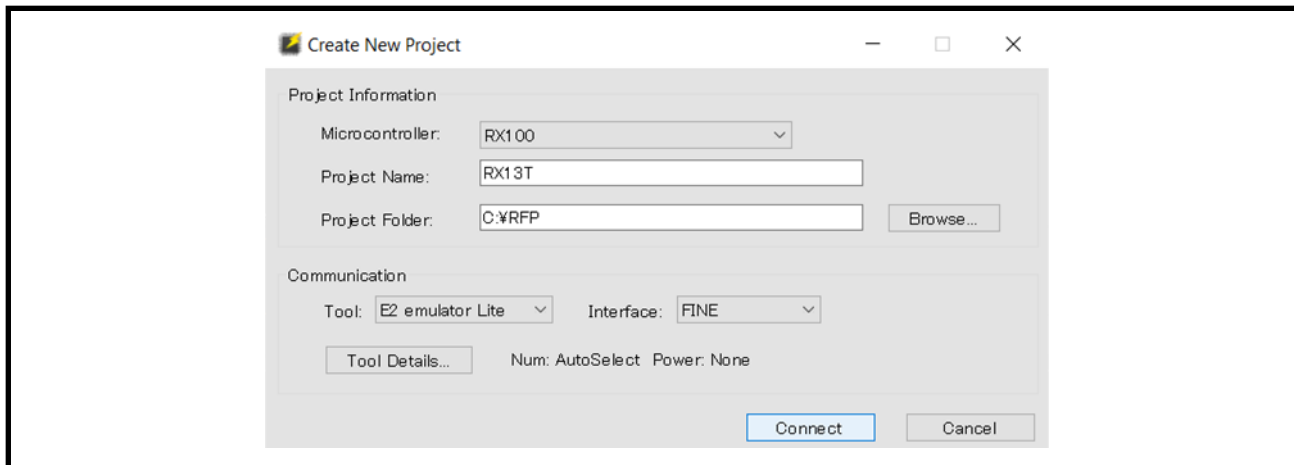

Figure 5-5 Create New Project (RAJ306101)
2. Execute Renesas Flash Programmer, then connect from menu "File" > "New Project..." in reference to **Figure 5-5**. Note.1